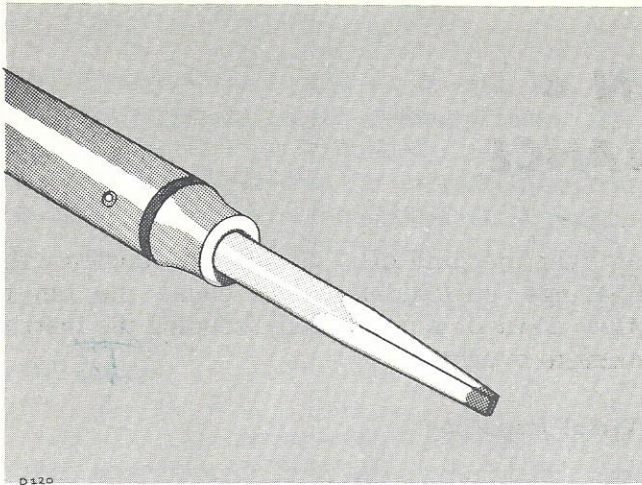

Fig. 4-1. Soldering iron tip properly shaped and tinned.
are installing or removing parts from the strips. Fig. 4-1 will show you the correct shape for the tip of the soldering iron. Be sure to file smooth all surfaces of the iron which will be tinned. This prevents solder from building up on rough spots where it will quickly oxidize.
2. Prepare the tip of the iron as shown in Fig. 4-1.